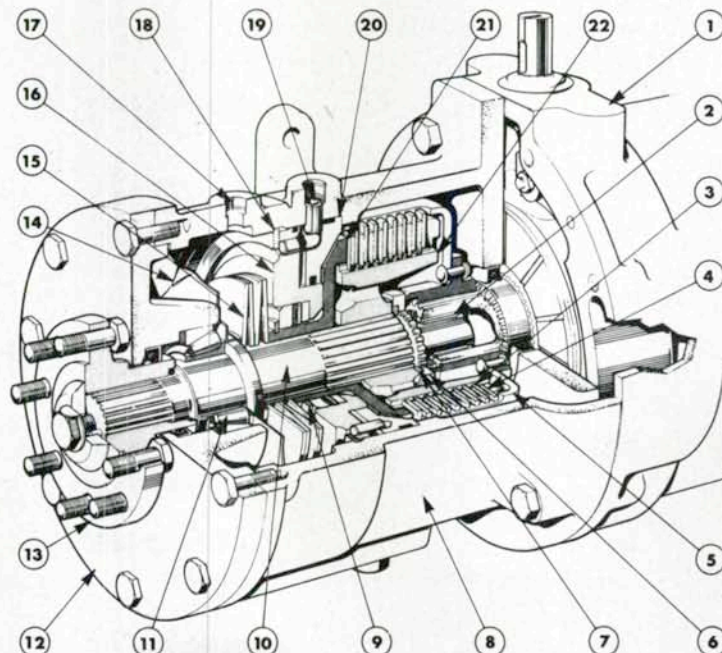
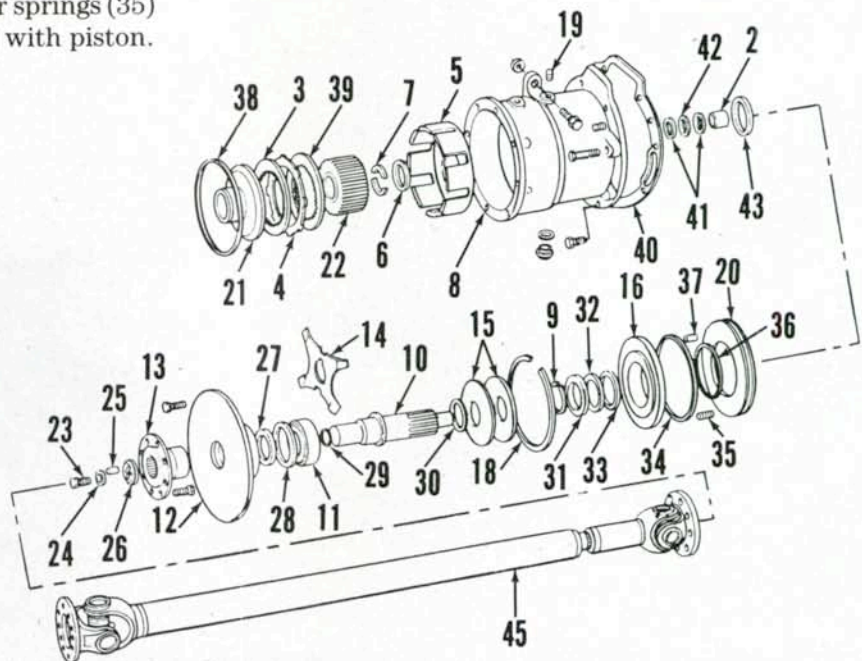

Fig. 50—Sectional view of transfer case assembly used on early TW-35 models with APL-3054 front drive axle. Refer to Fig. 51 for exploded view.
Fig. 51—Exploded view of transfer case assembly used on early TW-35 tractors with front drive axle.
**36. OVERHAUL.** Disconnect clutch oil feed and return lines from transfer case housing ports (17 and 19—Fig. 50). Remove hex head bolts securing control valve retaining plate to housing and remove valve assembly, retaining plate and oil pipes. Remove remaining bolts and separate transfer case from handbrake assembly. Using special tool Ford No. 0567 or equivalent, remove hex bolt, lockplate disc and pin (25—Fig. 51) from end of output shaft, then remove flange (13). Mark housing and cover for proper alignment during reassembly. Remove cover bolts and transfer case cover (12). It may be necessary to use a hammer and brass drift to aid in removal. Remove clutch and output shaft assembly snap ring (18). Drive roll pin (19) into transfer case housing from outside. Drive or press clutch and output shaft assembly out of housing from rear and remove clutch drum (5). Roller bearings in transfer case may be removed if necessary.
To determine shim (30) thickness, place clutch assembly on output shaft with clutch drum up. Remove drum without moving plates. Coat split rings (7) with petroleum jelly and install to secure clutch components. Carefully turn assembly so shaft collar (C—Fig. 52) is facing up and measure gap between pressure plate (21) and underside of output shaft collar (C) using a 0.787 inch (20 mm) long gage block (B). Record this measurement. Note dimension of Belleville washer pack as indicated on packing slip, then subtract dimension of washer pack from previously measured gap between shaft collar and pressure plate. Result is required thickness of shim (30—Fig. 51). Shim is available in metric thicknesses from 2.0 mm through 5.0 mm in 0.5 mm increments.
Coat transfer case housing bores (where piston and thrust ring are located) with petroleum jelly, then lower housing (8) over clutch and output shaft components. Align one recess in outer edge of thrust ring (20) with clutch piston oil pressure feed hole (19—Fig. 50), then drive roll pin into feed hole 0.006 inch (0.15 mm) from outer edge of hole. Roll pin must engage thrust ring recess to prevent turning. Secure clutch piston with snap ring (18—Fig. 51). Coat outer edge of oil seal (43) with a suitable sealant and press into transfer case cover (12) with sealing lip toward roller bearing.
If front bearing cover outer race was removed, install original size shim. Obtain correct output shaft end play by performing following shimming procedure: Protect front cover oil seal from output shaft splines and install "O" ring (29) on output shaft stem. Coat cover (12) face with sealant, then install cover on housing using alignment marks made during disassembly. Tighten cap screws to a torque of 32 ft.-lbs. (43 N·m). Mount transfer case assembly on blocks face down. Measure distance from rear face of case to output shaft shoulder as shown in Fig. 53. Distance should be between 2.216-2.232 inches (56.29-56.69 mm). Install correct thickness of shim (28—Fig. 51) to obtain proper dimension. After shimming cover to
brake housing. Subtract the previously measured distance from face of transfer case to shoulder of output shaft (Fig. 53) from brake shaft dimension. The result is the total thickness of thrust needle bearing (42—Fig. 51) and two washers (41) needed to obtain desired end clearance. Thrust washers are available in the following thicknesses: 2.38 mm, 2.5 mm, 2.8 mm, 3.0 mm and 3.15 mm.